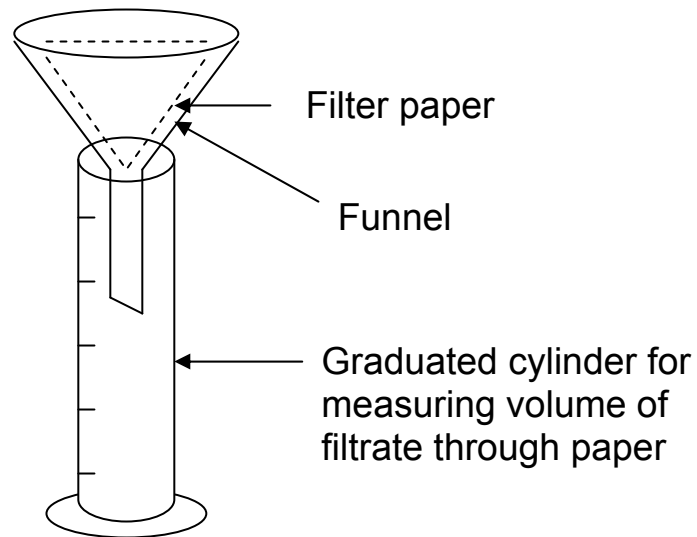

Figure 2. Apparatus set-up
2. Pour 50mL of clean, tap water into funnel situated in one of the graduated cylinders (set-up shown in Figure 2.).